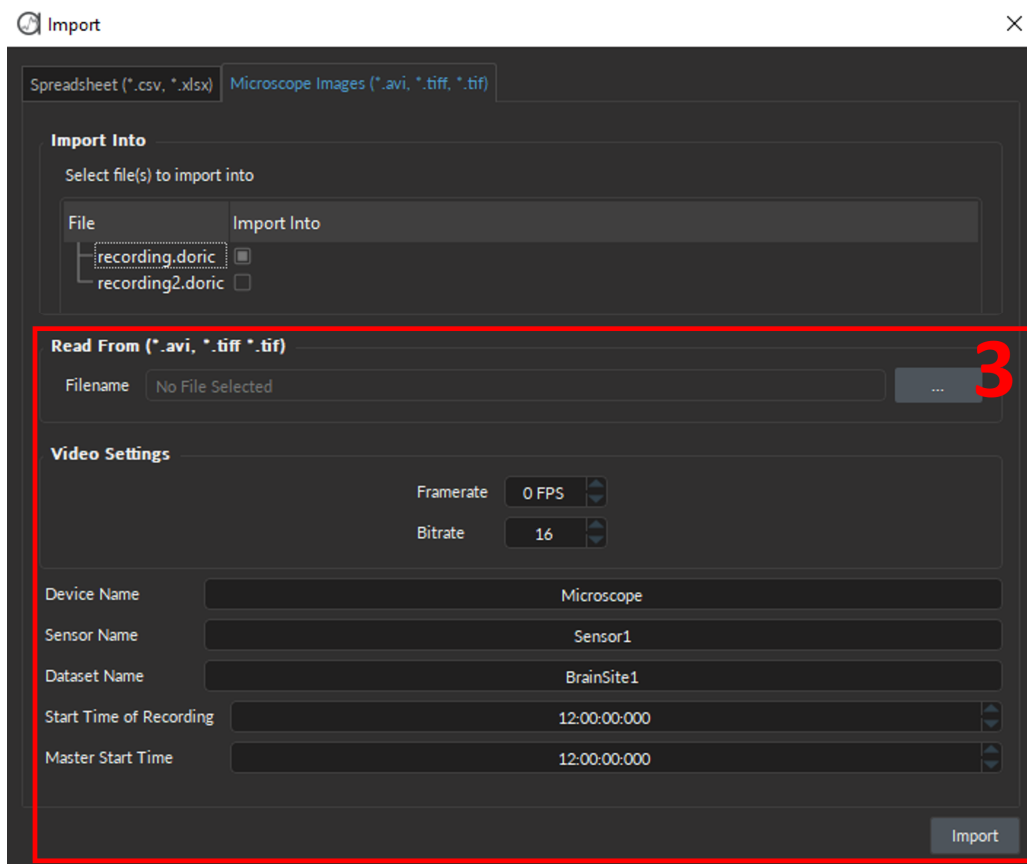

Figure 4.19: *Import, Microscope-specific parameters*
3. The **Microscope Image** specific parameters in Fig. 4.19 are identical to the parameters details in Section 4.2.2.2.